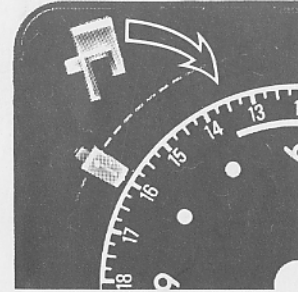

Fig 3
- Fig 3. illustrates tappets being inserted into outer dial — short leg of tappet faces middle of clock.